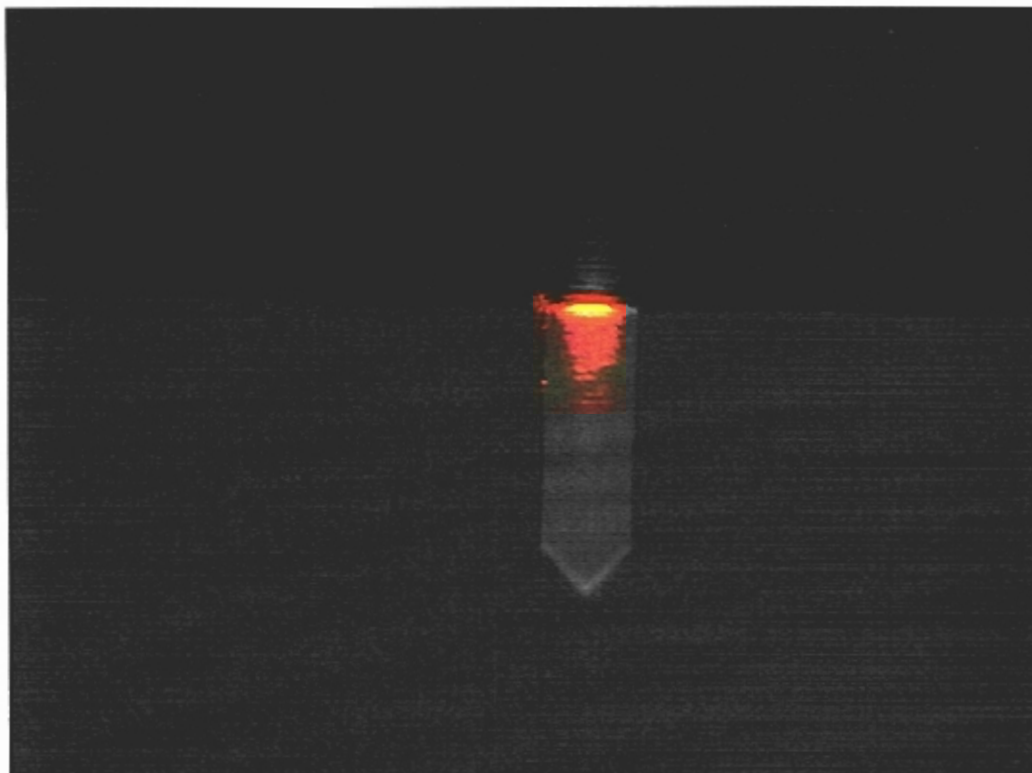

Figure 2
- A bright spot (Figure 2) when the laser hits the edge of the cantilever substrate.